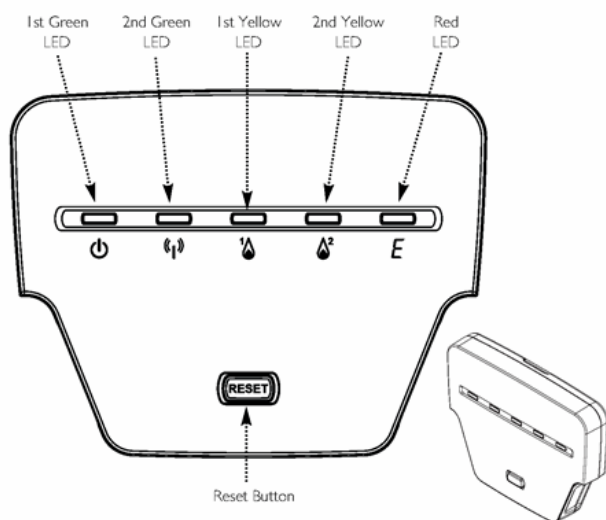

Fig. 43
5 LED Receiver (Fig. 43)
- When a THINK Controller is mounted in a wall cradle, the 5 LED Receiver fills the space on the appliance. It acts as an indicator see fig. 43 and enables user resets to be carried out as they cannot be performed remotely.